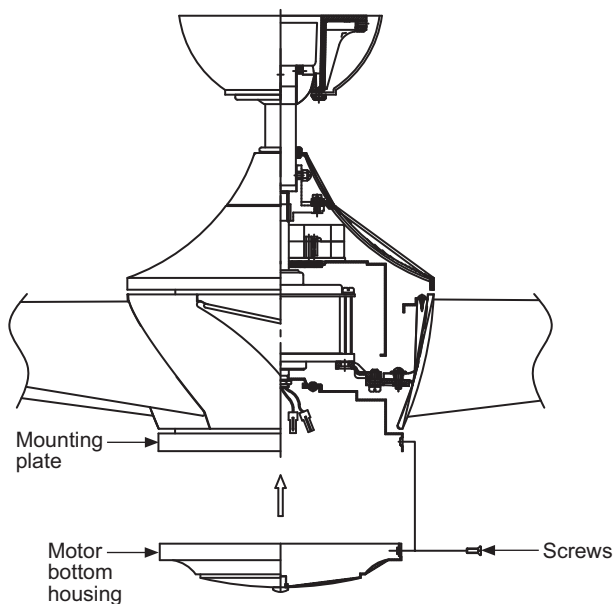

**Fig. 17**
Step 1. Loosen the two screws on the mounting ring attached to the motor shaft and "remove" and save the third screw. (Fig. 17)
Step 2. Place the key holes on the mounting plate over the 2 screws previously loosened from the mounting ring, turn mounting plate until it locks in place at the narrow section of the key holes. Secure by tightening the 2 screws previously loosened and the one previously removed. (Fig. 17)